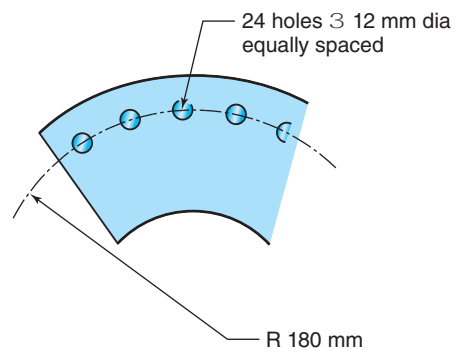

Figure 12-35 What operation is needed to drill these cooling holes in this disk brake? What is the name of the pattern produced?
8. Objective: Modify this brake disk in Fig. 12-35 by drilling cooling holes. Name the operation that will be used. What is the name often given to a pattern of holes such as shown in Fig. 12-35?